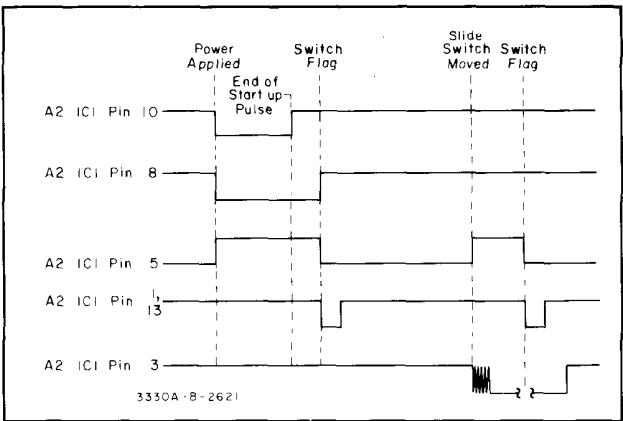

Figure 4-9. Slide Switch Strobe Timing Diagram.
**4-29. Slide Switches.** There are eight signal lines applied to the controller from the slide switches. These lines are either grounded or held at + 5 V dc depending on the position of the slide switch. A strobe pulse from the slide switches is applied to a flag circuit. This flag indicates to the controller that information is available on the slide switches. Figure 4-9 shows the timing sequence of the flag.